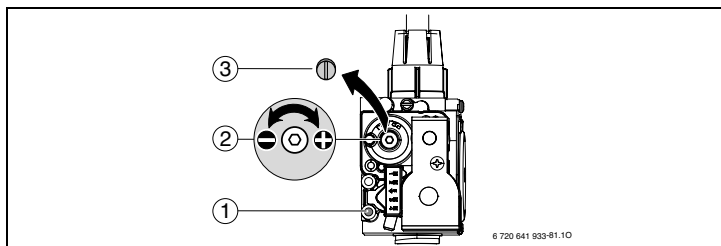

Fig. 6 Set minimum nominal output
- ▶ Remove the sealed screw (→ Fig. 6, [3]) from gas valve adjustment screw (→ Fig. 6, [2]) and set CO2 or O2 level for minimum nominal output.
- ▶ Reinstall the screw (→ Fig. 6, [3]) to cover the gas valve adjustment screw.
- ▶ Loosen the screw in the test port for gas inlet pressure (→ Fig. 6, [1]) and connect a pressure gauge (→ Fig. 8).